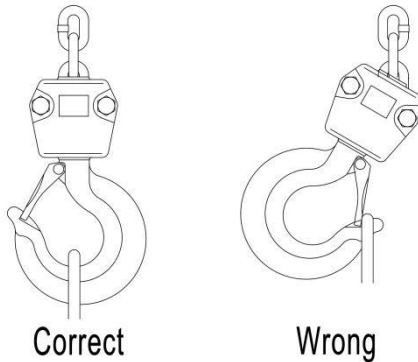

Figure 4
2. Place load sling or chain in the center of the bottom hook, making sure the safety latch is secure. **Never load the hook in front of the safety latch.** See Figure 4.